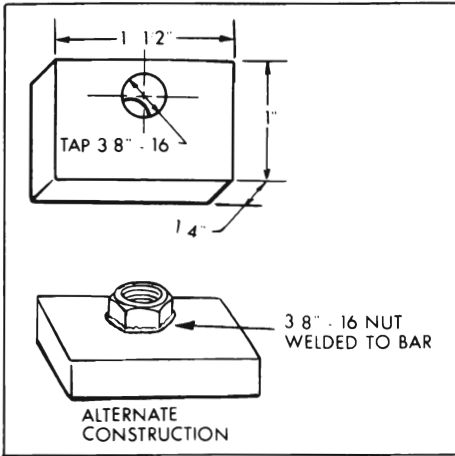

Figure 5-44—Turbine Removing Tool
2. Attach a bar 1 1/2" x 1/4" x 1" (See Figure 5-44) to a J-7004 slide hammer. Place the edge of the remover under the edge of the first turbine. Hammer sharply on first one side then the other to move the first turbine straight up out of the turbine support.